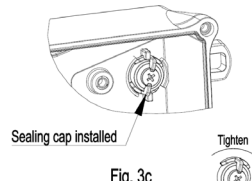

Fig. 3c
4. Reinstall Sealing Caps by turning a quarter turn clockwise to maintain Type 4X, IP69K rating. (See Fig. 3c)